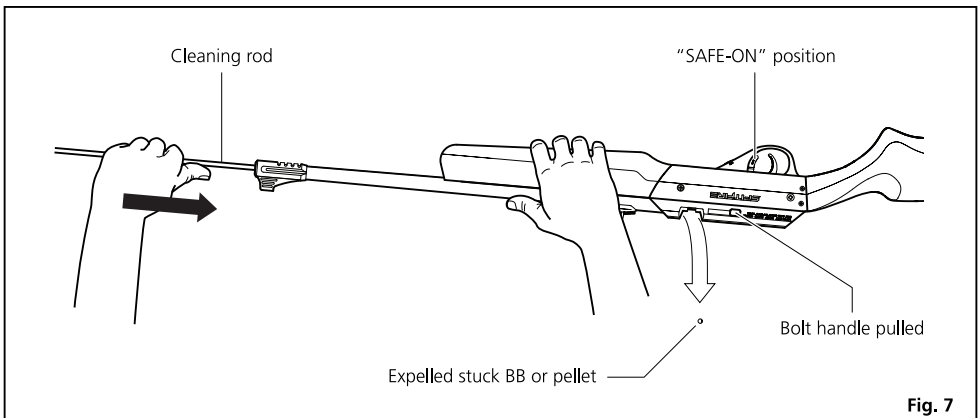

Fig. 7
- Insert a .177 caliber cleaning rod (not included) into barrel through the muzzle and carefully push jammed BB or pellet out without using excessive force. Discard and never reuse this BB or pellet. (Fig. 7)